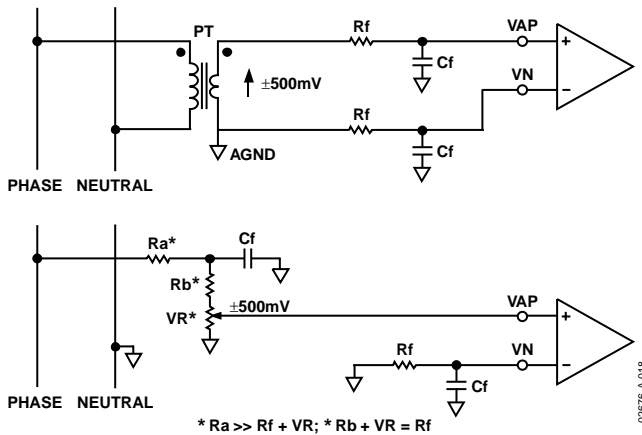

Figure 20. Typical Connections for Voltage Channels
Figure 20 shows two typical connections for the voltage channel. The first option uses a potential transformer (PT) to provide complete isolation from the main voltage. In the second option, the ADE7752 is biased around the neutral wire, and a resistor divider is used to provide a voltage signal proportional to the line voltage. Adjusting the ratio of  $R_a$ ,  $R_b$ , and  $V_R$  is also a convenient way of carrying out a gain calibration on the meter.